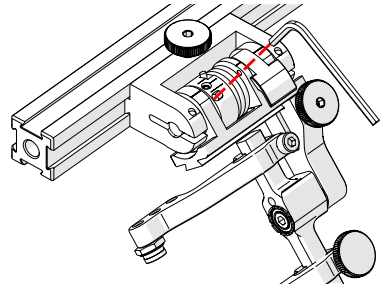

Fig. 88 - Unlatched position
3. Insert the short arm of a 3 mm hex wrench into the 3 mm slot (Fig. 88).